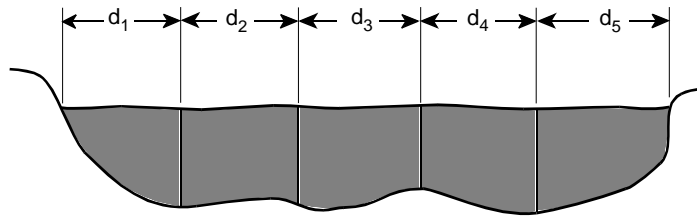

Figure 2-1. Segment Length
You will need to divide the width of the channel into equal segments (Figure 2-1). Then do a velocity profile and calculate the flow for each segment. Sum the segment flows for the total flow. The procedure for calculating flows in rivers and streams is as follows:
- Divide the channel width into segments of equal length (d) (Figure 2-1).